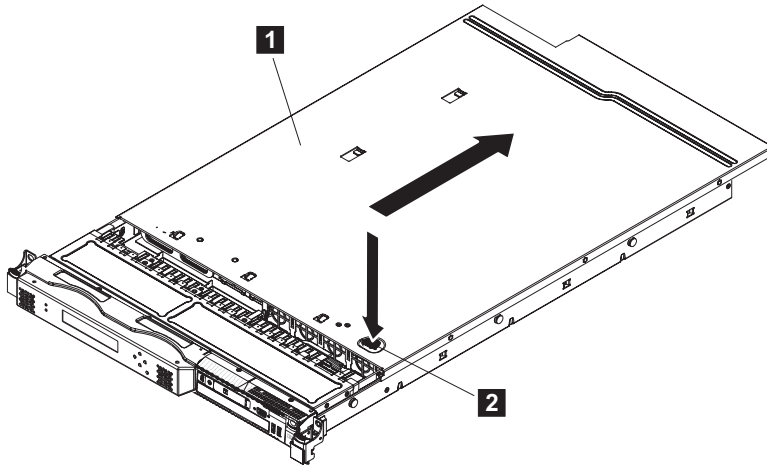

Figure 64. Removing the SAN Volume Controller 2145-CG8 or 2145-CF8 cover
5. Press down firmly on the blue tab (**2** in Figure 64 on page 79) that secures the cover (**1**) and slide the cover toward the rear of the node until the cover disengages the chassis.